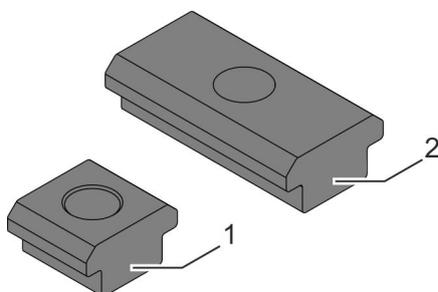

Fig. 14: Slot stones
*RK Rose+Krieger GmbH recommends using the short slot stones (Fig. 14/1, 13 mm) above the guide profile and the long slot stones (Fig. 14/2, 22 mm) above the guide carriage for assembling the linear unit.*